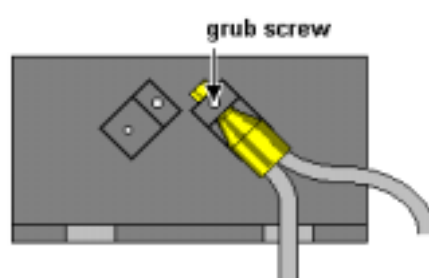

Figure 84 Right holder grub screw
5. Insert the sampling end of the fibre into the right side holder of the sample area accessory and tighten the grub screw, as shown in Figure 84.